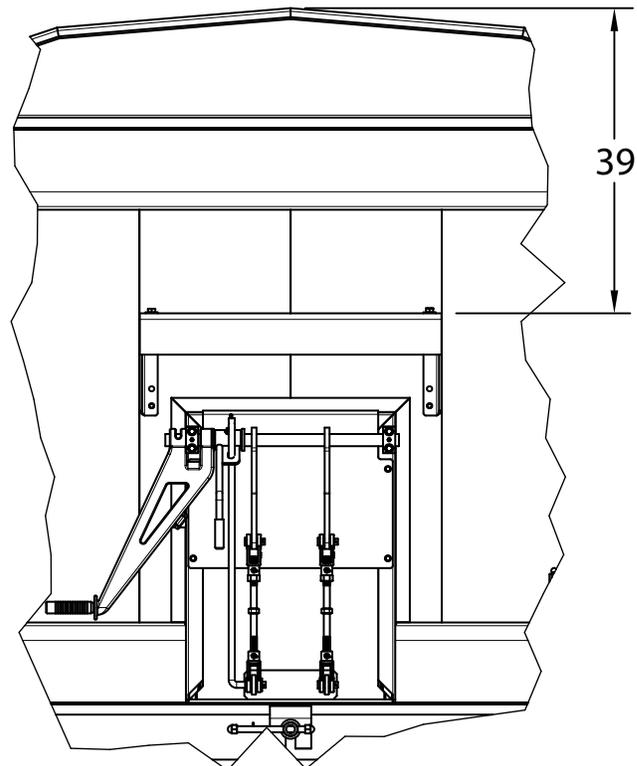

Figure 28-2
- 2) **Figure 28-2.** Center the bracket in the center of the rear door, making sure the bracket is 39" down from the top of the bow rise.
- 4) Mount the bracket to the rear door using the supplied (4) 1/2-18 x 4" bolts, (8) 1/2" washers and (4) 1/2-18 locking nuts.